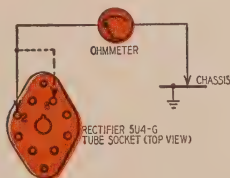

Fig. 4—Checking filter capacitor
6. Before substituting a new low-voltage rectifier tube for one with an open filament, make a top-chassis check with an ohmmeter to determine if a filter capacitor is shorted (Fig. 4). In many sets with resistive voltage dividers from B plus to ground, a low resistance is normal—as low as 5,000 ohms in some cases. Where a shorted capacitor is found it should be replaced before substituting a new tube.